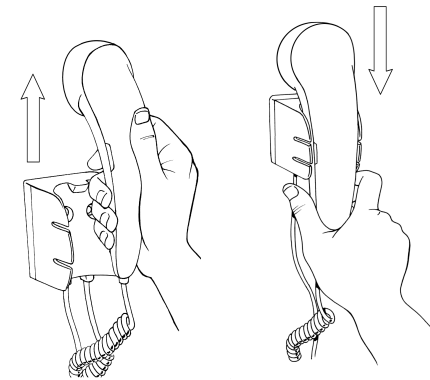

FIGURE 14 Lifting and Replacing the Privacy Handset
- Lift the Privacy Handset as shown in Figure 14.